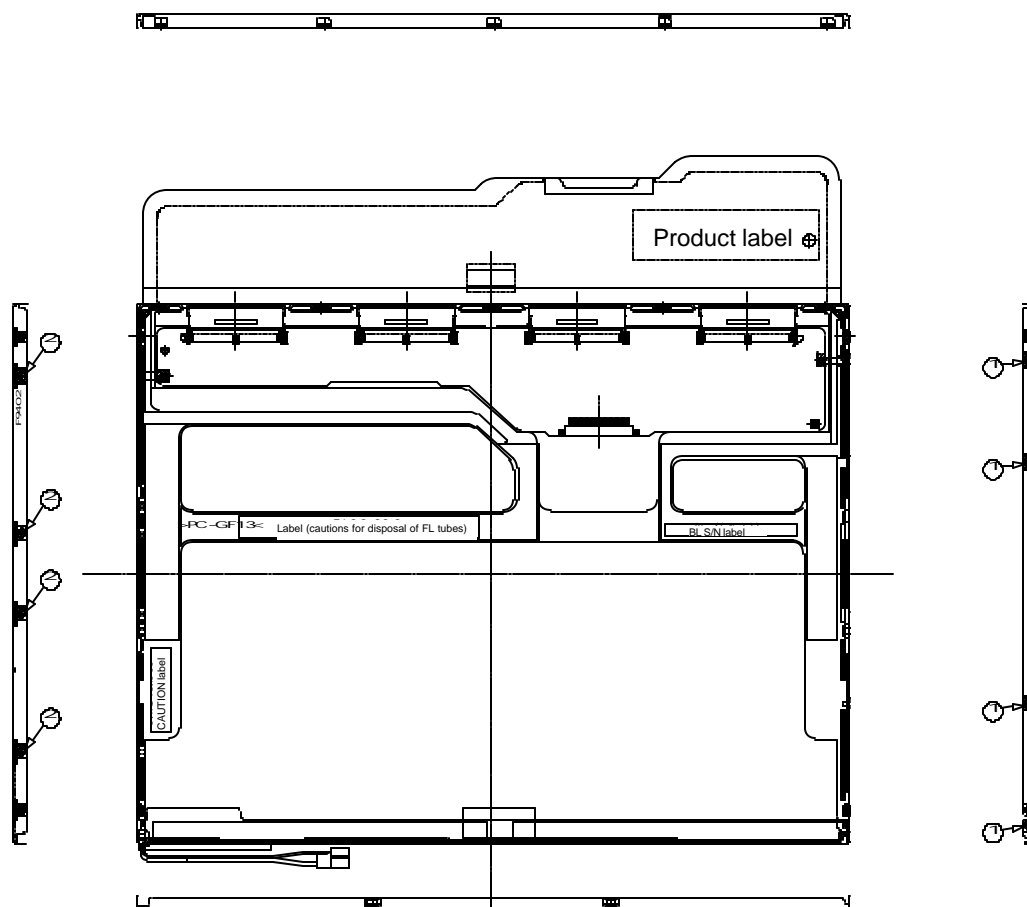

Figure 4-64 Replacing 14 Inch TMD fluorescent lamp (2)
2. In the order (1) and (2) shown in Figure 4-64, remove the screws from the left- and right-hand sides of the module.